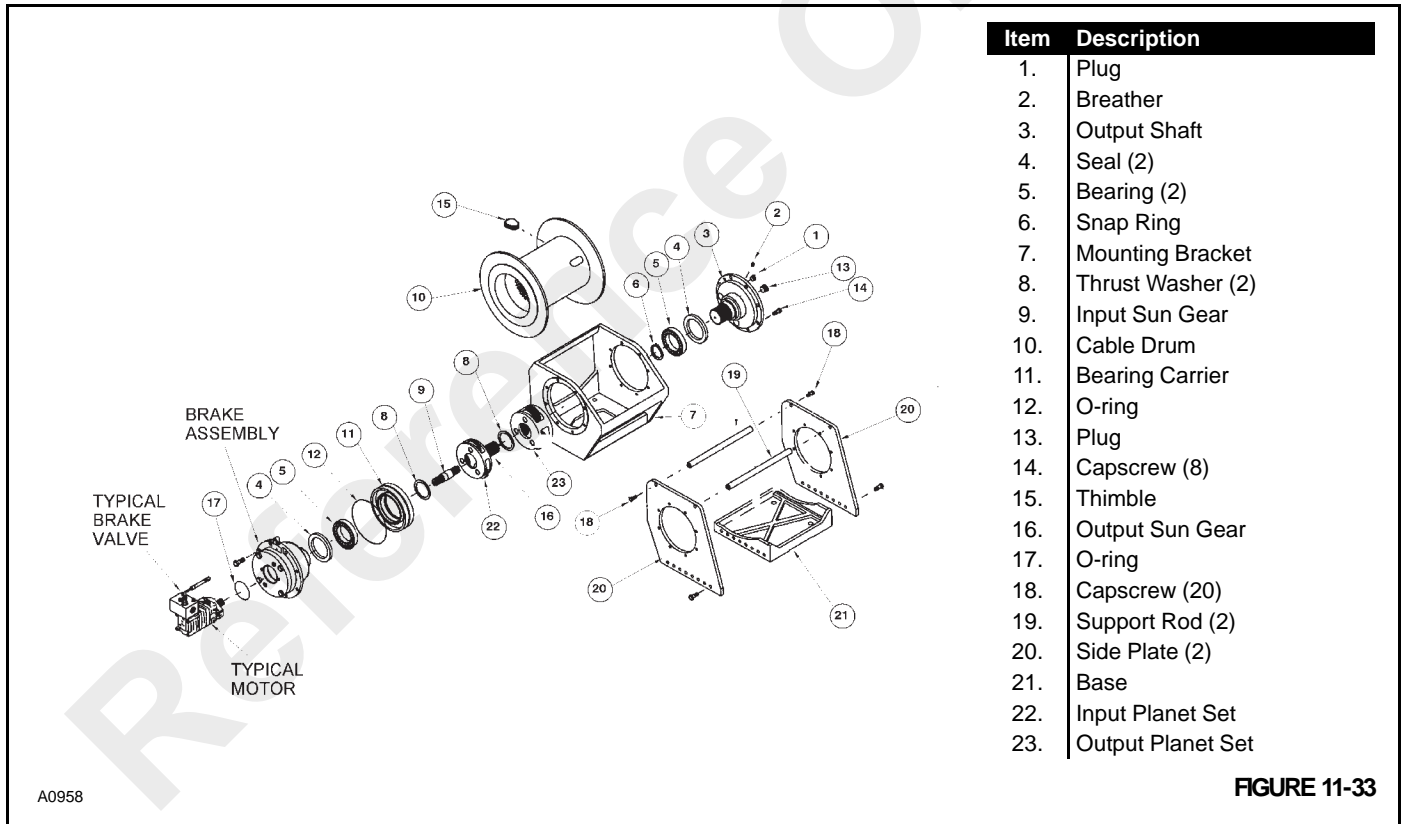
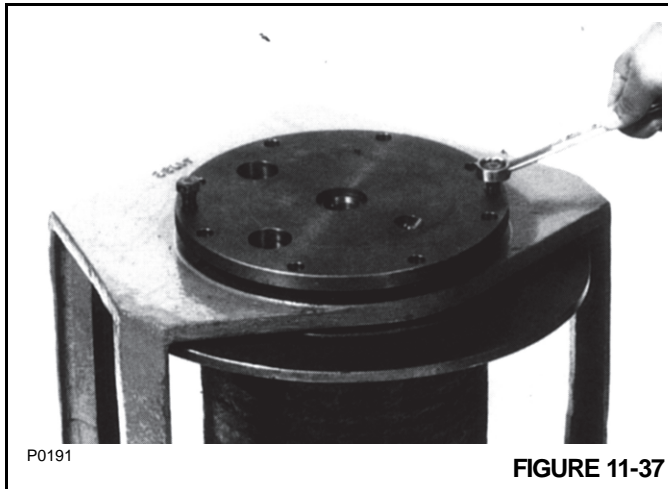
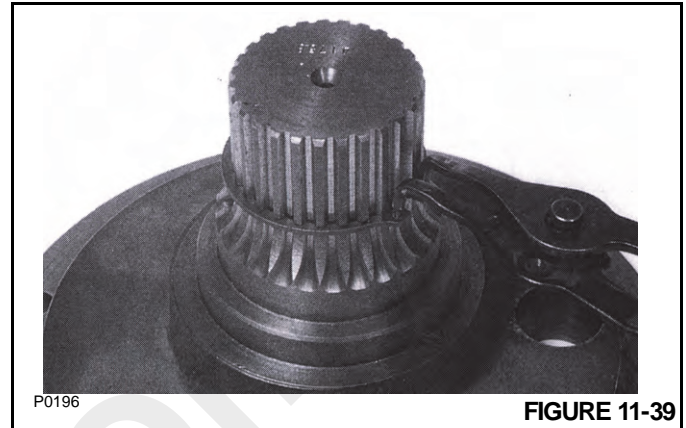

FIGURE 11-33
FIGURE 11-37
FIGURE 11-39
4. Using two crows foot pry bars (Figure 11-35), hook the bearing carrier (11, Figure 11-33) from inside and pull it out of the cable drum. Remove the bearing (5) and seal (4) from the bearing carrier (11).
5. Remove the input sun gear (9, Figure 11-33) from the input planet set (22).
6. Install three 1/4 inch eyebolts (Figure 11-36) into the three planet pins in the input planet set (22, Figure 11-33). Use a piece of chain (Figure 11-36) to pull the planet set from the drum. Inspect the planet set for wear and repair as needed. See Planet Sets for repair instructions.
7. Remove the output sun gear (16) and check drum (10) teeth for wear. This wear can be measured as follows:
- a. Place a magnetic base dial indicator on the output carrier (8, Figure 11-33) and adjust the plunger of the dial indicator approximately at the middle of one of planet gear teeth.
Using the same procedure as in Step 6, remove the output planet set (23, Figure 11-33) from the drum. Inspect the planet set for wear and repair as necessary. See Planet Sets for repair instructions.
8. Turn the hoist over onto the motor end and remove the capscrews holding the output shaft (3, Figure 11-33) into the mounting bracket. Reference mark for proper assembly. Install two of the capscrews into the extra threaded holes in the output shaft (Figure 11-37) and evenly tighten them until the output shaft is free from the mounting bracket.
10. Remove the bearing (5) and seal (4, Figure 11-33) from the drum (10) and inspect the bearing for signs of pitting and spalling.
2. After inspecting the drum for excessive wear in the gear teeth and both the drum and mounting bracket for structural integrity, install bearing (5, Figure 11-33) and seal (4) into the drum. Stand the mounting bracket up on the motor end and slide the drum into it. Make sure the drum is installed in the same direction as it was removed or the hoist assembly will be wrong when completed.
3. Check the snap ring (6, Figure 11-33) on output shaft (3) to ensure it is in its groove and not bent over (Figure 11-39). Replace if necessary.
5. Turn the assembly over onto the output shaft side and install the output planet set (23, Figure 11-33). Use the same eyebolts and chain used to disassemble the unit (Figure 11-36).
6. Put a light coating of grease on the thrust washer (8, Figure 11-33) to keep it in place. Install it into the output planet set and insert the output sun gear (16) into the output planet set.
7. Install the input planet set (22, Figure 11-33) into the drum. Make sure it fits into the output sun gear.
8. Install the input sun gear (9) and thrust washer (8) into the input planet set. Again, coat the thrust washer with a light coat of grease.
11. Install a new O-ring (17, Figure 11-33) on the face of the motor and install the motor/brake valve assembly and connect the hoses.